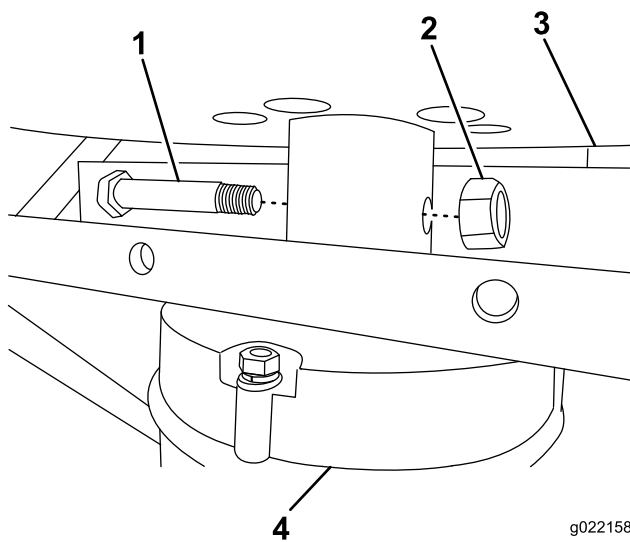

Figure 7
2. Connect the drum to the motor with the bolt and nut. Refer to Figure 7.